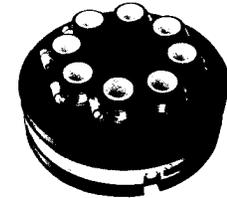

Figure 40 — Carrier End Plate
18.01 Available for various combinations of carrier cable stub diameters and number of entrance ports. For information consult factory. (Figure 40)